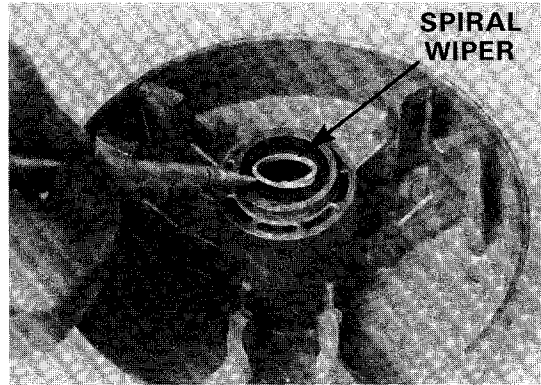

Figure 9-11
10. Using a scribe, remove the spiral wipers (5) from both ends of bore in fixed face assembly and discard (Figure 9-11).